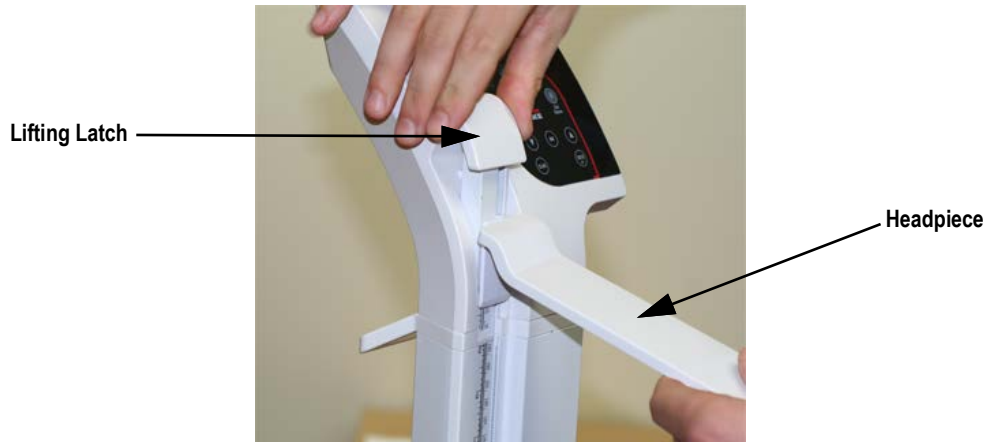

Figure 3-2. Pull up on White Latch to Extend Height Rod
2. Raise the headpiece until it is perpendicular to the height rod and snaps into place (Figure 3-2).